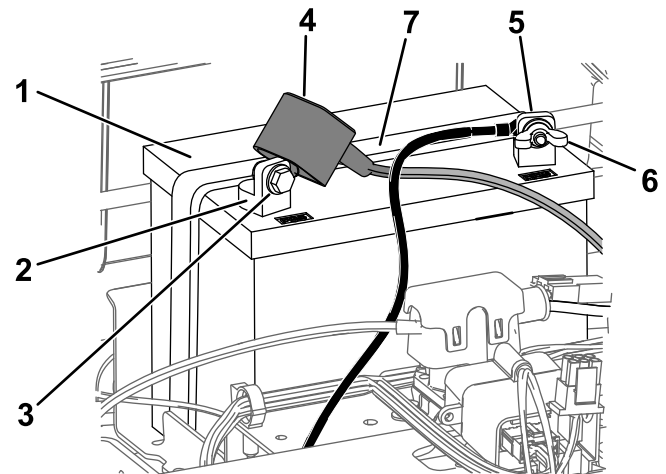

Figure 50
4. Disconnect the negative (black) ground cable from the battery post (Figure 50).
6. Disconnect the positive (red) cable from the battery post (Figure 50).
7. Remove the battery hold-down (Figure 50), and lift the battery from the battery tray.
1. Position the battery in the tray (Figure 50).
5. Secure the battery with the hold-down (Figure 50).